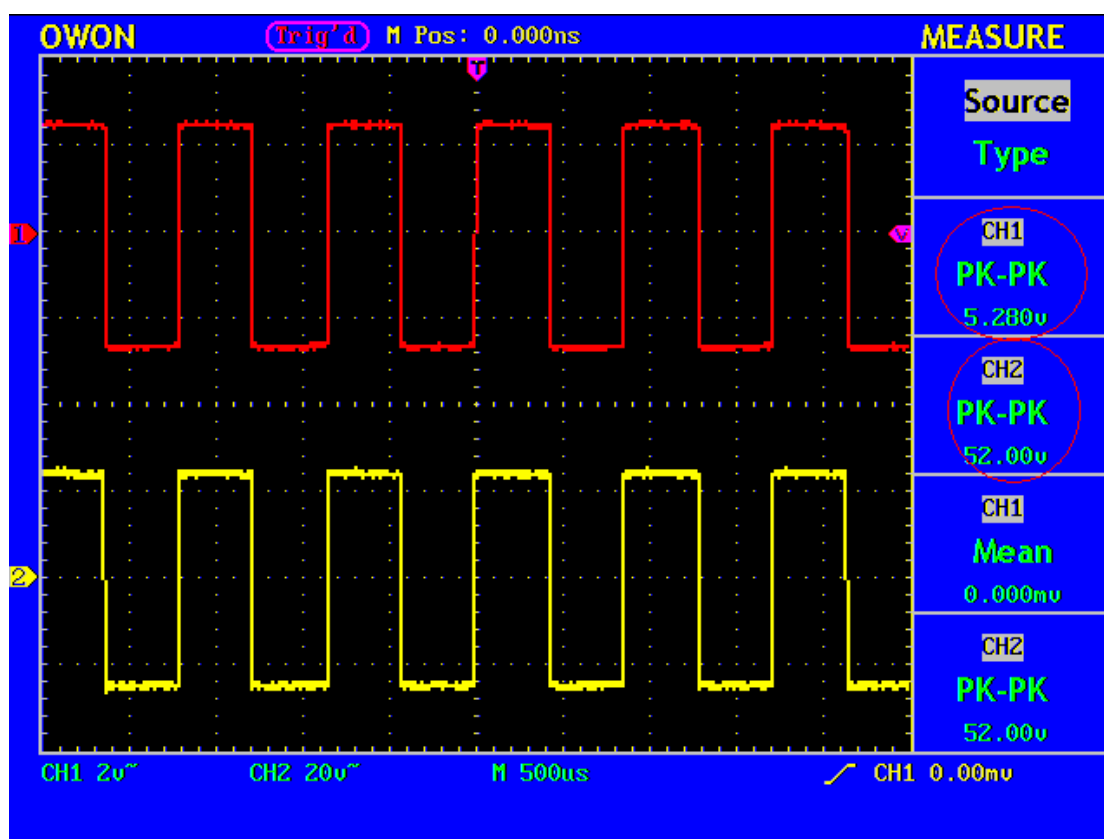

Fig. 54 Wave Form of Gain Measurement
10. Read the peak-to-peak values of Channel 1 and Channel 2 from the displayed menu (see Fig. 54).